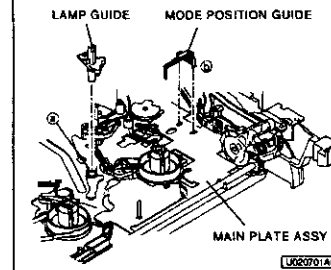

Fig. 2-7-1
1. Unfasten the catch (a) of the MAIN PLATE ASSY shown in Fig. 2-7-1 to remove the LAMP GUIDE.
2. Unfasten the catch (b) of the MODE POSITION GUIDE shown in Fig. 2-7-1 to remove the MODE POSITION GUIDE.
2. Install the MODE POSITION GUIDE shown in Fig. 2-7-1.
4. Install the LAMP GUIDE shown in Fig. 2-7-1.